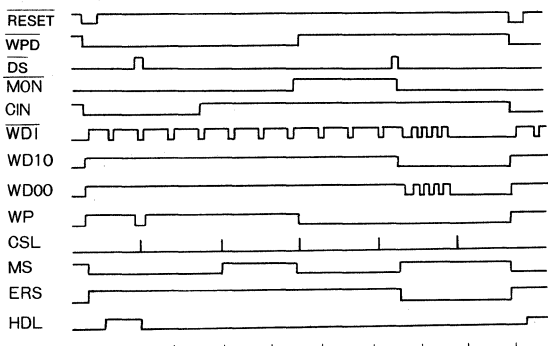

Fig.25
(6) WRITE (Table9, Fig.25, 26参照)